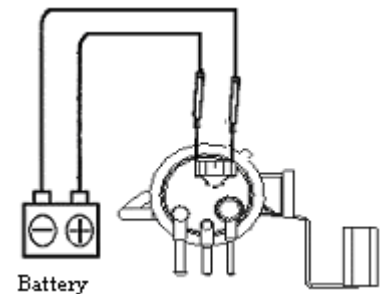

Figure 91
- (a) Connect the positive and negative battery terminal to the concerned fuel pump connector. See (Figure 91).